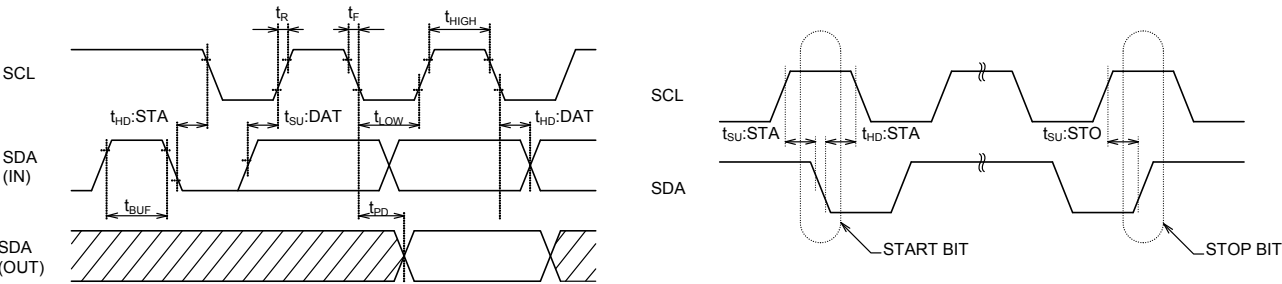

Fig.17 Synchronous Data Timing
- All commands must be terminated by a STOP condition, which is a Low to High transition of SDA when SCL is HIGH. (See Fig.17)